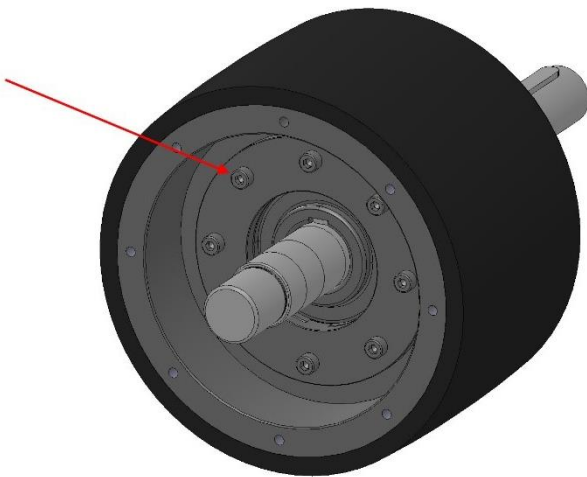

Figure 14: Bolt M8
3. Remove eight bolts M8 and then remove wheel side cover (Figure 14).